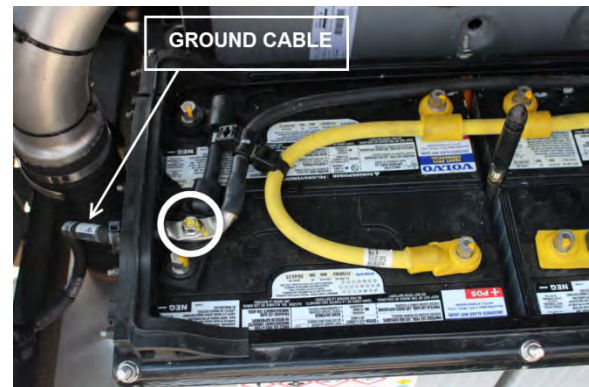

FIGURE 44: DISCONNECT GROUND CABLE FIRST
2. Disconnect the ground cable first (FIGURE 44).